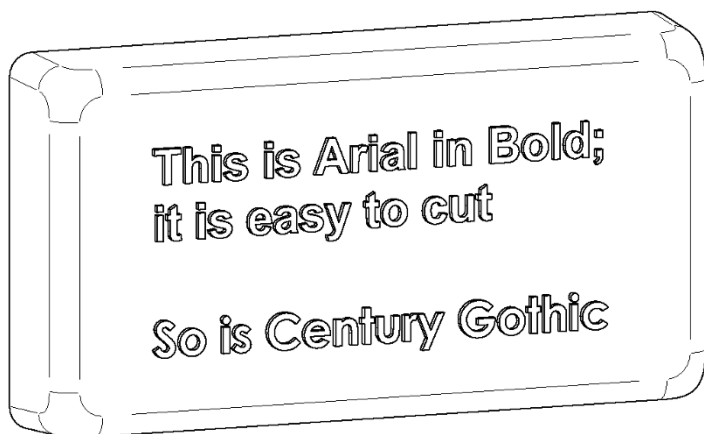

Figure 3-8: Examples of good fonts to use for text.
- ✓ **Legibility:** To make text simple to machine and read, I suggest using a bold sans serif font, such as Arial or Century Gothic (see Figure 3-8). If your design system controls the size of fonts using points as a unit, use 20 points or more. This will make the text a little large for small parts, but it's necessary to keep mould-cutting times short. Otherwise, you should measure the smallest feature that needs to be cut for your text and make sure